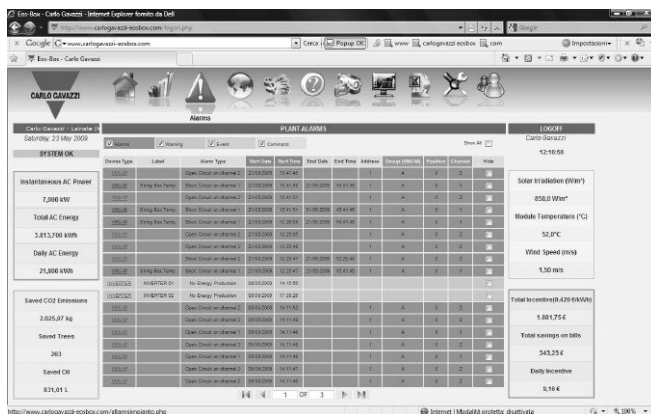

Fig. 12
Clicking with the mouse on the LED there is a direct access on the string managed by Eos-Array. If the LED is red the access is to Alarm list page (Fig.12), if the LED is green the access is to the relevant String (VMU-S) graph.
- Alarms: this sub-menu is used to configure the management of all alarms, the labels to be displayed at the figure 12 and the link of variable versus type of anomaly: high priority alarm (alarm), low priority alarm (warning), events and commands.